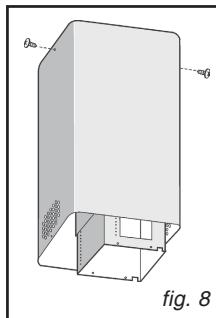
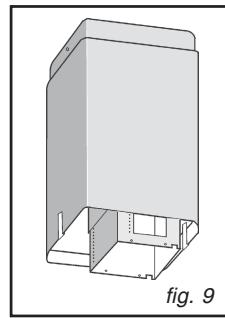
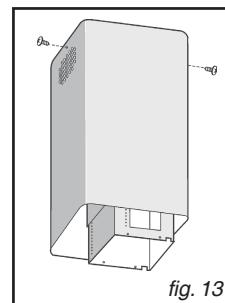

fig. 8
fig. 9
fig. 13
- Take the upper flue (the one with the round slots) and fit it on the telescopic structure with the slots at the bottom; secure the flue to the bracket with 2 screws (Fig.8). Take the lower flue and fit it in the same way as the upper flue; slide it upwards and secure it in that position with some adhesive tape (Fig. 9).
- Take the upper flue (the one with the round slots) and fit it on the telescopic structure with the slots at the top; secure the flue to the bracket with 2 screws (Fig. 13). Take the lower flue and fit it in the same way as the upper flue; slide it upwards and secure it in that position with some adhesive tape (Fig. 9).